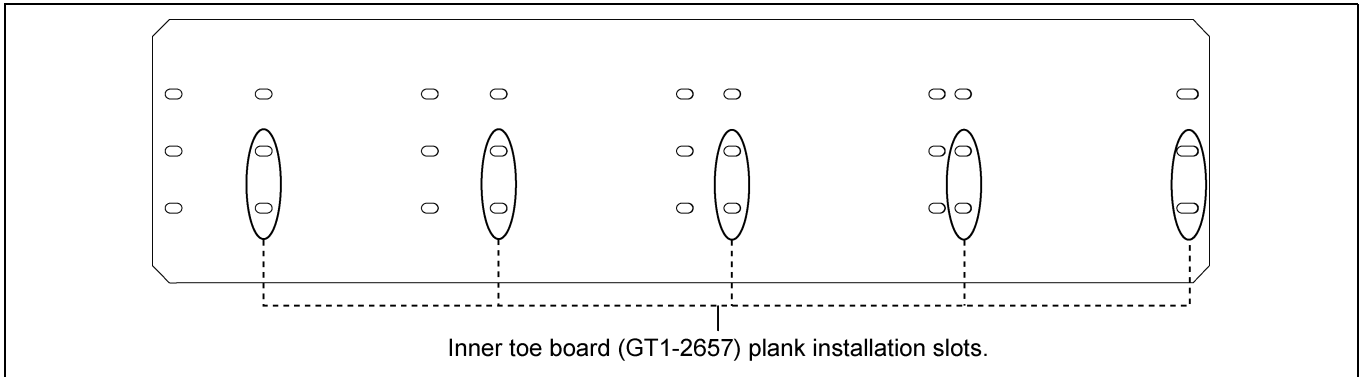

Figure 4K 17' Inner Toe Board (GT1-2657)
3. Inner toe board (GT1-2657) is arranged with many slots to install plank. Install planks to corresponding slots as shown in Figure 4K.